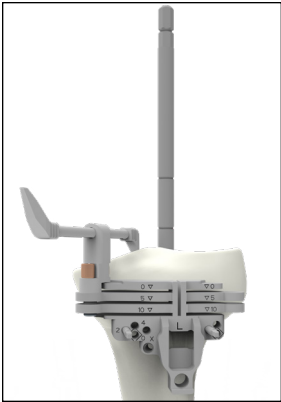

Figure 30
- In a revision procedure a **2mm cleanup** resection cut can be performed. 2mm of bone will be resected with the initial proximal resection when using the “2” end of the Triathlon Stylus (Figure 30).